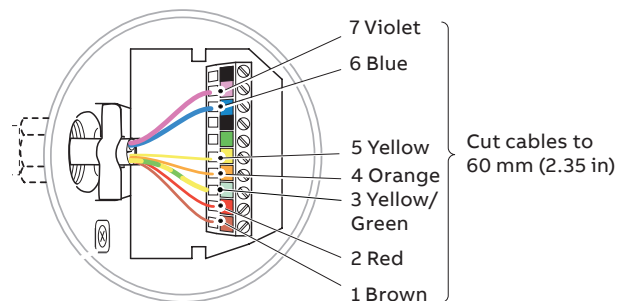

Figure 18 Cable connections at insertion sensor terminal block
- Make connections only as shown in Figure 18.